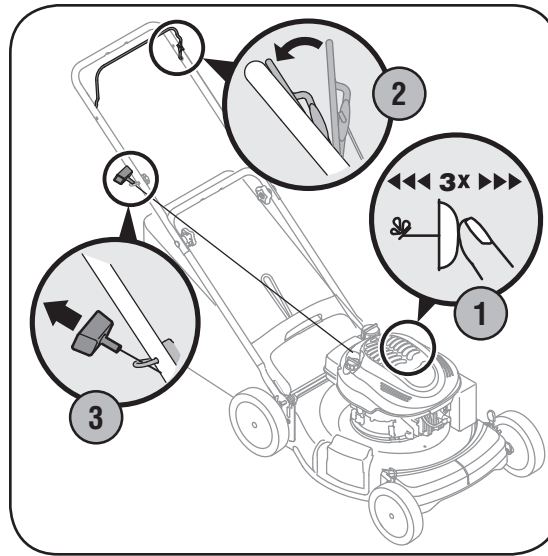

Figure 4-2: Starting the mower.
1. Push primer three times. Wait about two seconds between each push, Figure 4-2. In temperature around 55° F or below, prime five times. Do not prime to restart a warm engine.
2. Standing behind the mower, squeeze the blade control against upper handle, Figure 4-2.
3. Holding these two handles together firmly, grasp recoil starter handle and pull rope out with a rapid, continuous, full arm stroke, Figure 4-2. Keeping a firm grip on the starter handle, let the rope rewind slowly. Repeat until engine cranks. Let the rope rewind each time slowly.